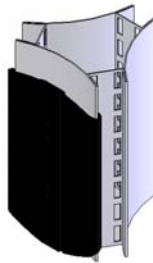

Figure 3
2. Insert the left adapter bracket, tabs facing up, into matching left side of office furniture equipment mounting slots and slide up until mounting holes align (see Figure 3).